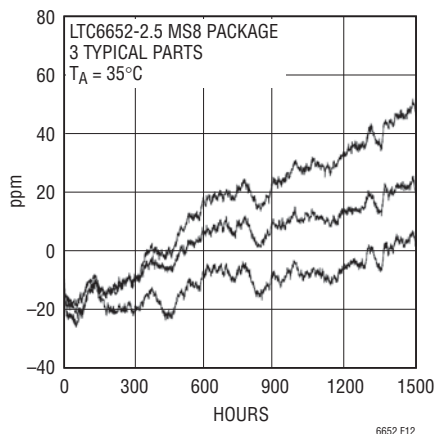

Figure 12. Long Term Drift
**Long-term drift cannot be extrapolated from accelerated high temperature testing. This erroneous technique gives drift numbers that are wildly optimistic. The only way long-term drift can be determined is to measure it over the time interval of interest.** The LTC6652 long-term drift data was collected on more than 100 parts that were soldered into PC boards similar to a “real world” application. The boards were then placed into a constant temperature oven with  $T_A = 35^\circ\text{C}$ , their outputs were scanned regularly and measured with an 8.5 digit DVM. Long-term drift is shown below in Figure 12.